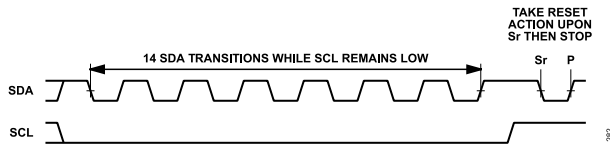

Figure 85. Reset Pattern Timing Diagram
The reset pattern shown in Figure 85 allows the digital host to reset the AD4062 from any of its operating modes.
The reset pattern is described in Section 5.1.11.3 of the MIPI specifications and is equivalent to fourteen SDA transitions while SCL is kept low, followed by a repeated start (Sr) and a stop (P). Figure 85 shows the timing diagram for resetting the AD4062 with the reset pattern. The digital host must wait for the delay time associated with the reset action of the device (see the Table 5) to elapse before initiating I3C transactions.